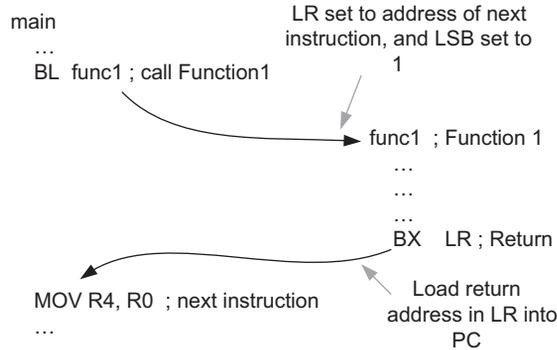

Figure 5.10: Function call and return using BL and BX instructions.
BL is commonly used for calling a subroutine or function. When it is executed, the address of the next instruction will be stored to the Link Register (LR), with the LSB set to 1. When the subroutine or function completes the required task, it can then return to the calling program by executing a “BX LR” instruction (Figure 5.10).